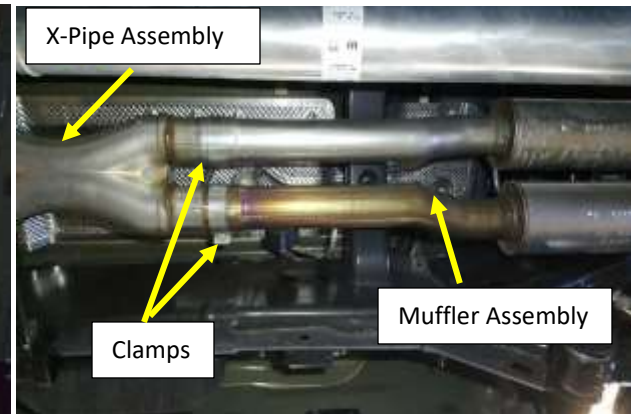

Figure 4
5. Remove the (x2) clamps at the muffler inlet. **Fig.4.** Apply penetrating oil to the slip joints and rubber isolators. Remove the rubber isolators and grounding strap.